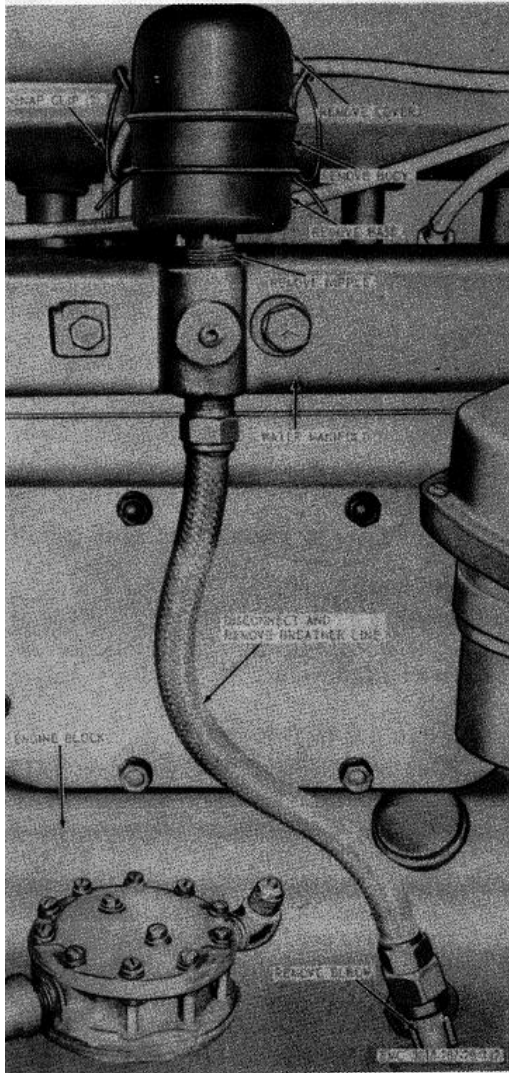

Figure 142. Carrier engine crankcase breather, removal and installation
a. *Removal.* Remove the breather as instructed on figure 142.
- (1) Clean all parts with an approved cleaning solvent and dry thoroughly.
- (2) Inspect all parts for breaks, leaks, dents, and other damage. Repair or replace all damaged parts as necessary.
c. *Installation.* Install the breather as illustrated on figure 142.